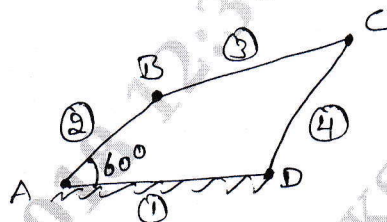

Fig Q4
- 4 A pin jointed 4 bar mechanism ABCD show Fig Q4. Link AB = 150mm, BC = 180mm, CD = 180mm and fixed link AD = 300mm. Link AB makes  $60^\circ$  with link AD, and rotates uniformly at 100 rpm. Locate all the instantaneous centres and find the angular velocity of link BC and linear velocity of link CD.